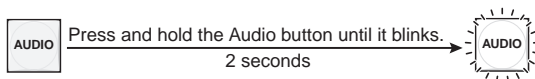

Figure 3-58 — Select Audio mode
2. Press and **hold** the Audio button for approximately 2 seconds (figure 3-58).